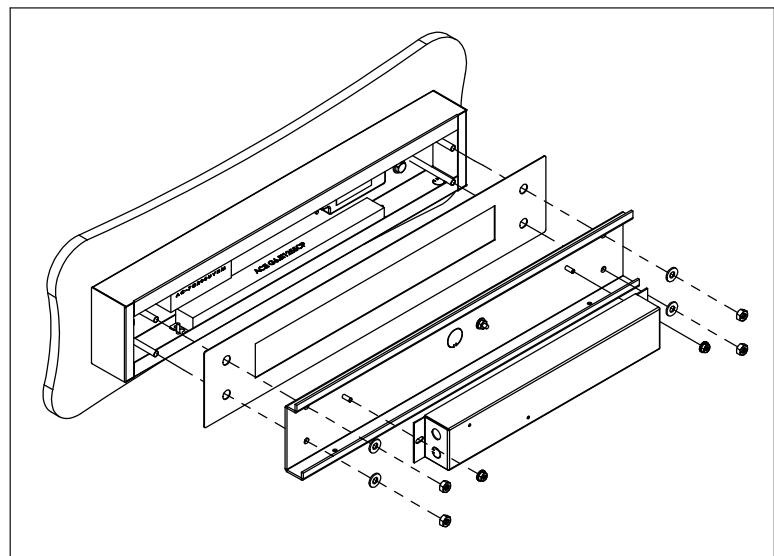

Figure 4
4. Make all necessary electrical connections and reattach Mounting Plate to Back Box and Back Box Cover Plate, then reattach Wireway Cover to Mounting Plate (Fig. 4).